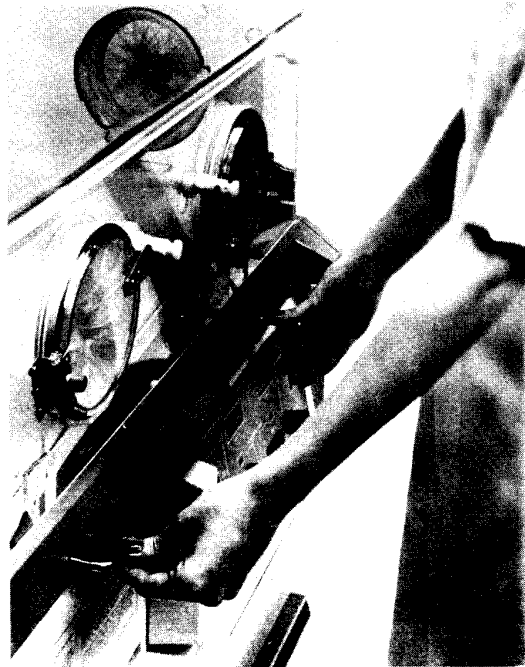

FIGURE 2.7 MATTRESS ELEVATOR OPERATION
14. CHECK MATTRESS ELEVATORS. Separately operate each Mattress Elevator by rotating handles downward as shown in Figure 2.7.